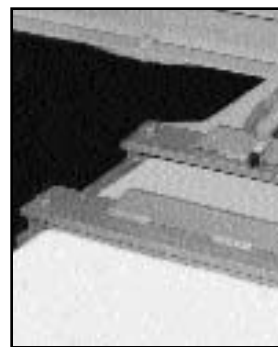

Figure 2
- 2) Clamp mount must engage inner edge of treadway and outer clamp must engage outer edge of treadway. (See Figures 2 and 3.) Slide outer clamp in as far as possible and secure bolts...finger tighten only!